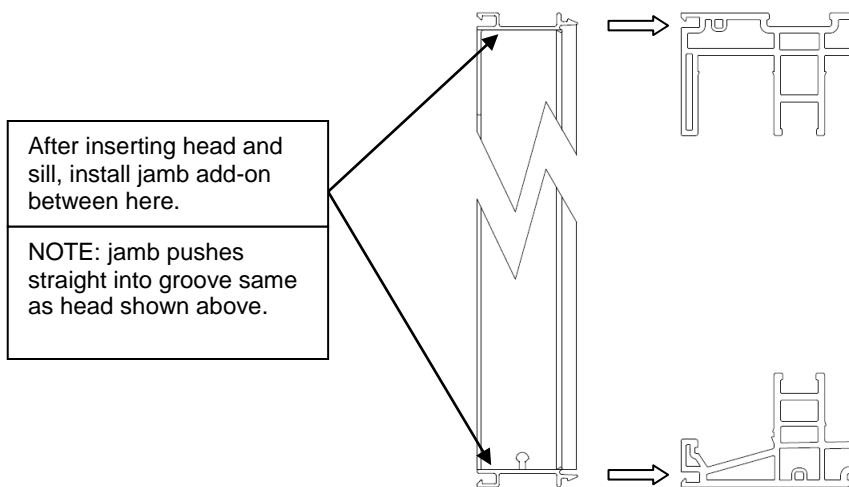

Figure 23
- 2) Start with the screen sill and head; it will connect into the main frame sill accessory groove. (See Figure 23)